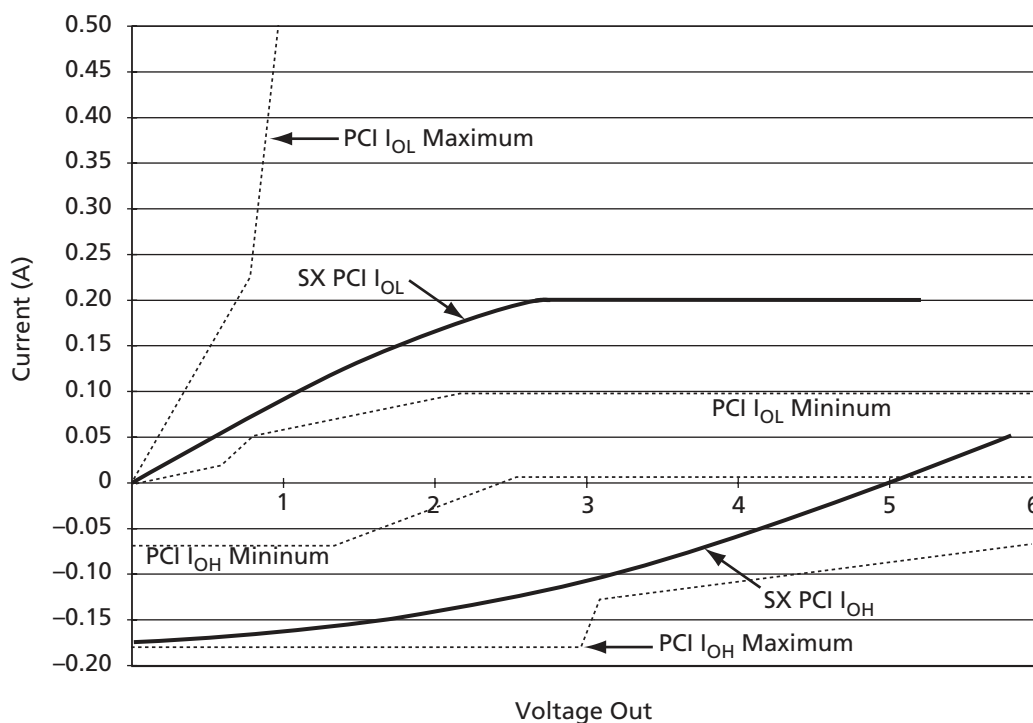

Figure 1-9 • 5.0 V PCI Curve for A54SX16P Device
1. Refer to the V/I curves in Figure 1-9 on page 1-11. Switching current characteristics for REQ# and GNT# are permitted to be one half of that specified here; i.e., half-size output drivers may be used on these signals. This specification does not apply to CLK and RST#, which are system outputs. "Switching Current High" specifications are not relevant to SERR#, INTA#, INTB#, INTC#, and INTD#, which are open drain outputs.
3. Maximum current requirements must be met as drivers pull beyond the last step voltage. Equations defining these maximums (A and B) are provided with the respective diagrams in Figure 1-9 on page 1-11. The equation defined maxima should be met by design. In order to facilitate component testing, a maximum current test point is defined for each side of the output driver.
Figure 1-9 shows the 5.0 V PCI V/I curve and the minimum and maximum PCI drive characteristics of the A54SX16P device.